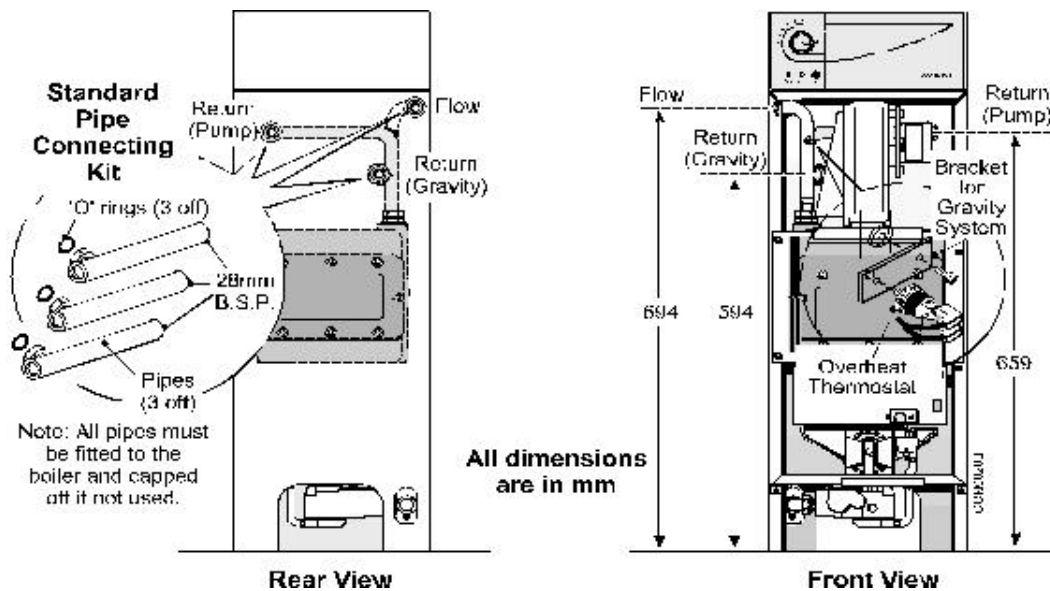

Fig. 14
- 3 On Gravity DHW systems check that the overheat thermostat is fitted correctly. See Fig. 14 on Page 18.